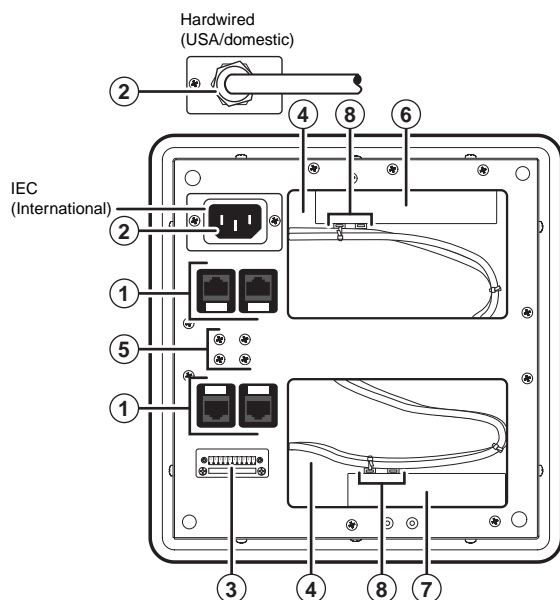

Figure 2-15 — HSA 822MS underside features
4. Replace the AAP/RJ-45 panel in the surface mount enclosure and secure it in place with the screws removed in *Preparing the HSA*, step 6. If you lose an AAP/RJ-45 panel screw, four spare screws are stored in the underside of the enclosure (figure 2-15 on page 2-18, item ⑤).